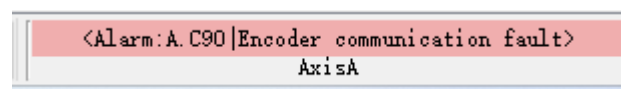

Figure 4-10
- 5) As shown in Figure 4-10, this field displays the servo drive's current alarm or warning status.